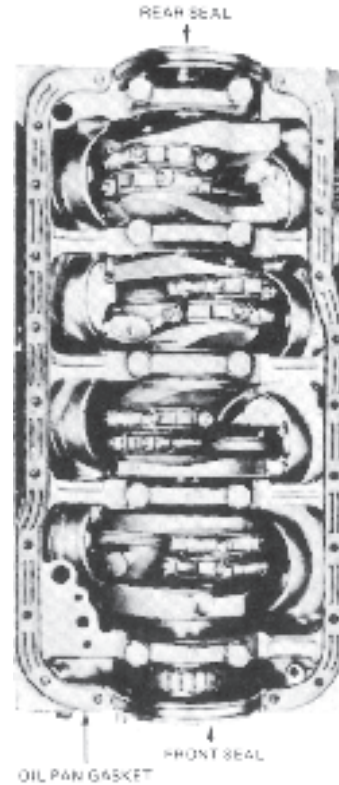

Fig. 31 Oil Pan Gaskets and Seals installed-302 and 351-W Engines
1. Clean the gasket surfaces of the block and oil pan. The oil pan has a two-piece gasket. Coat the block surface and the oil pan gasket with sealer. Position the oil pan gaskets on the cylinder block (Fig. 31).
3. Position the oil pan rear seal on the rear main bearing cap (Fig. 31). Be sure the tabs on the seal are over the oil pan gasket.